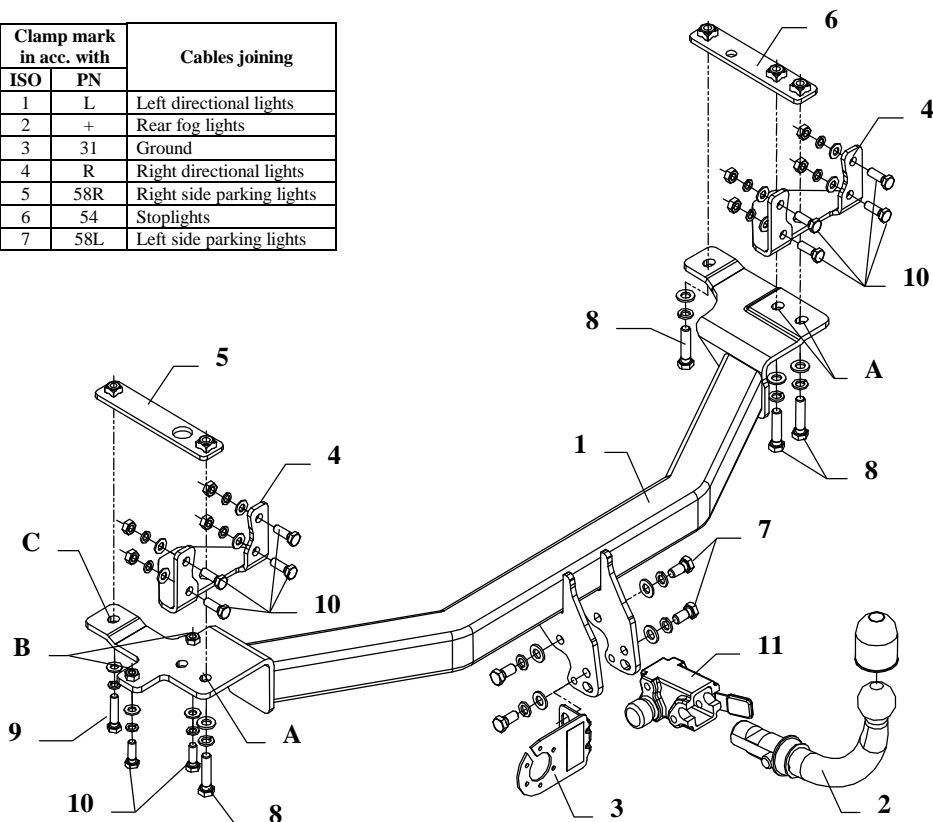

Fig.1
5. Fix angle brackets (pos. 4) from the right and left side of suspension using bolts M10x30mm (pos. 10) - see fig.1.
6. To the chassis members slip elements (to left – pos. 5 and to right – pos. 6).
7. Put main bar of the towbar (pos. 1) from below the car and fix through towbar holes (pos. A) using bolts M12x50mm (pos. 8).